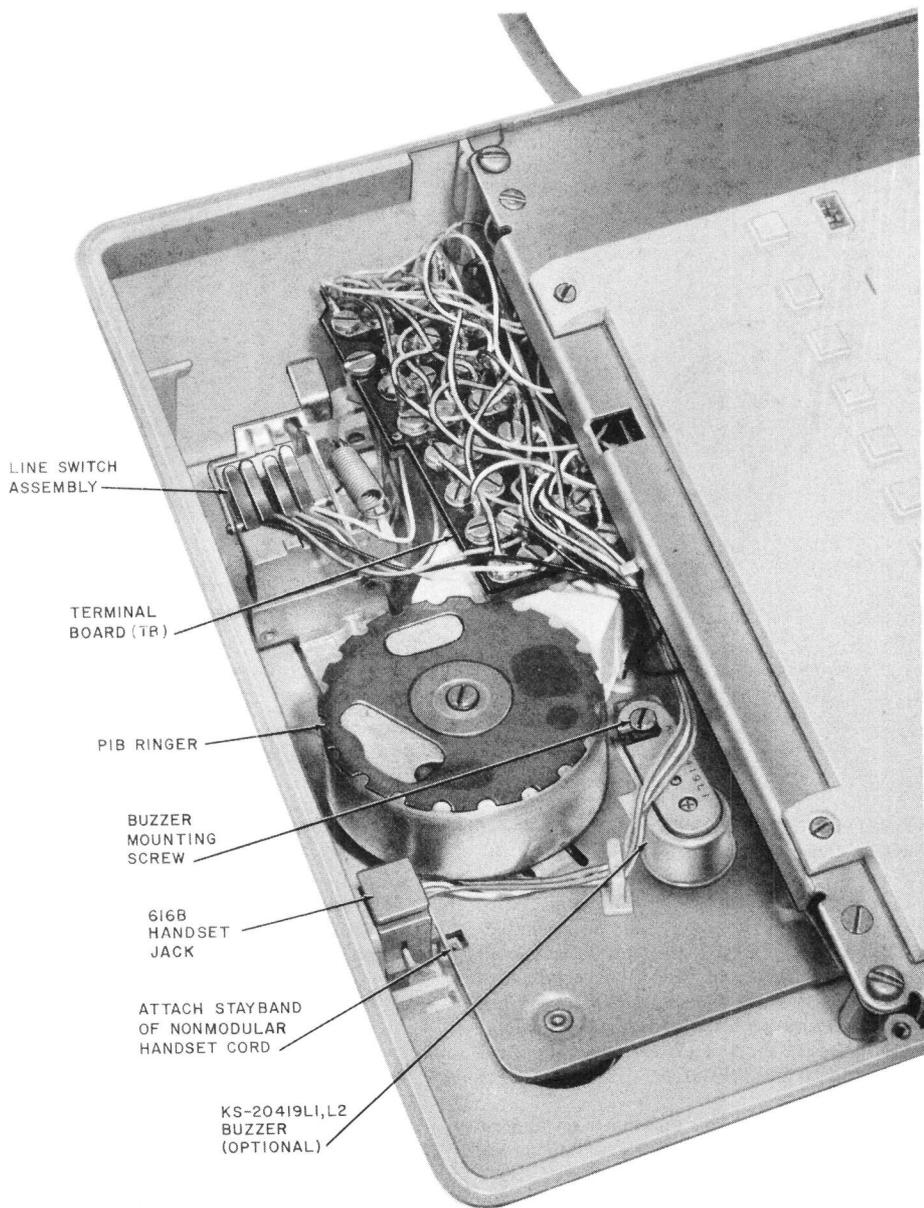

Fig. 3—Telephone Set With Faceplate, Handset, and Handset Cradle Removed
(1) Remove faceplate (paragraph 3.19) and place handset aside.
(2) Remove handset cradle (paragraph 3.20).
(3) Remove screw from buzzer mounting bracket, and mount buzzer on bracket shown in Fig. 3.